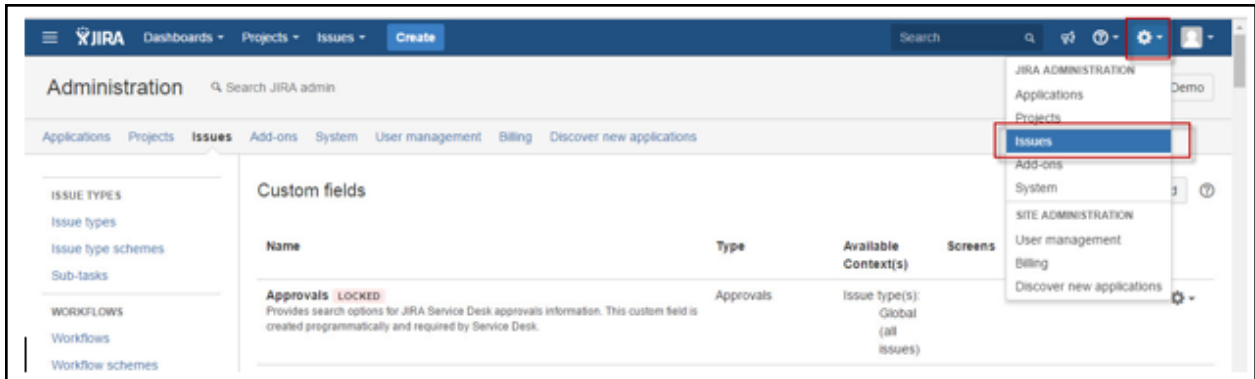

Figure 5.45: Selecting the Issues option
- Login to the JIRA console. Figure 5.45 will then appear. Click on the  icon on the toolbar at the right, top corner of the JIRA console to invoke a drop-down menu. From the menu, pick the Issues option.